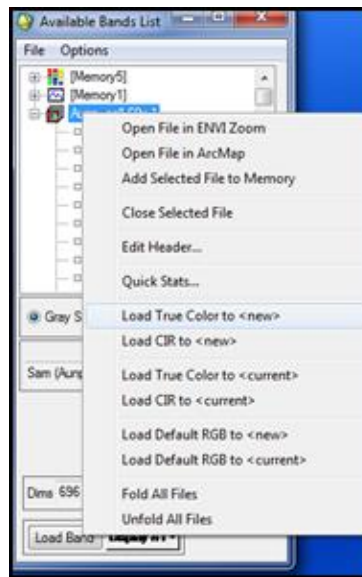

Figure 5.8a. Available Bands List
- Open the image to be classified (Figure 5.8a), scroll through the Available Bands List to find the original image.